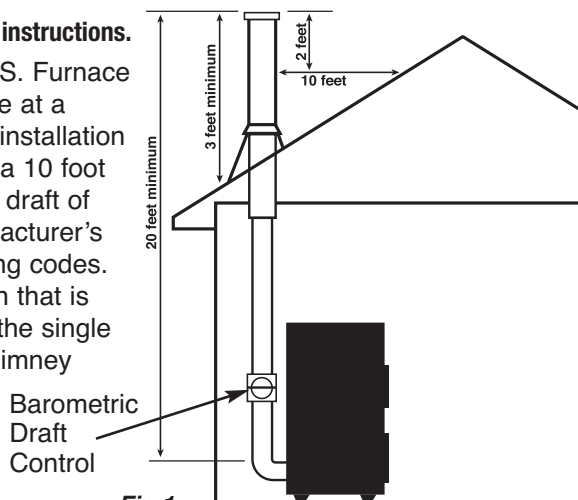

Fig. 1
18. Install a barometric damper in your chimney system. With furnace operating at normal temperature adjust barometric damper so that you have about a negative .05 or negative .06 inches of water column in your single wall chimney connector approx. 12" below barometric damper. See page 3, Fig. 1.